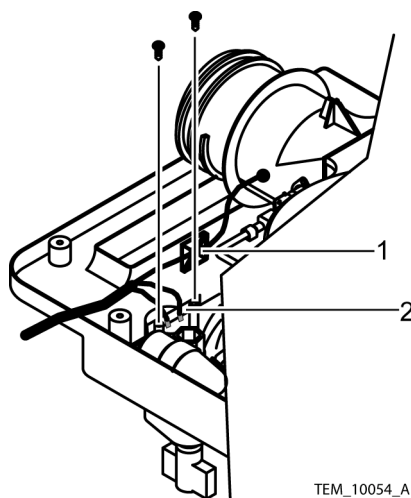

Figure 5-51. Thermistor Cable Removal
19. Remove the thermistor cable terminal board. See Figure 5-51, item 2.
20. Cut the cable tie on the thermistor cable. See Figure 5-51, item 1.